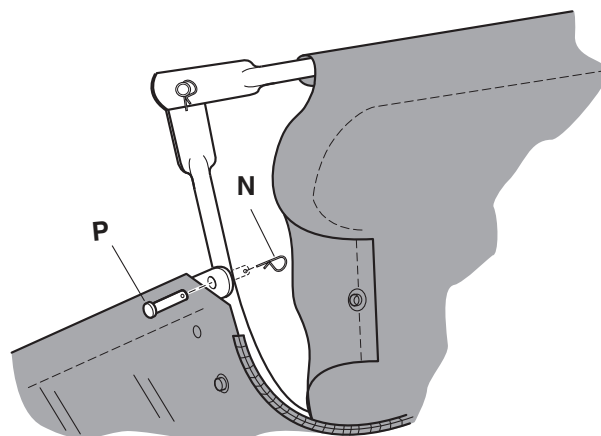

Figure 18
STEP 18: (SEE FIGURE 18)
- Connect the tube assembly to the hopper bag using 1/4" x 1-1/8" clevis pins (P) and 3/32" hair cotter pins (N).